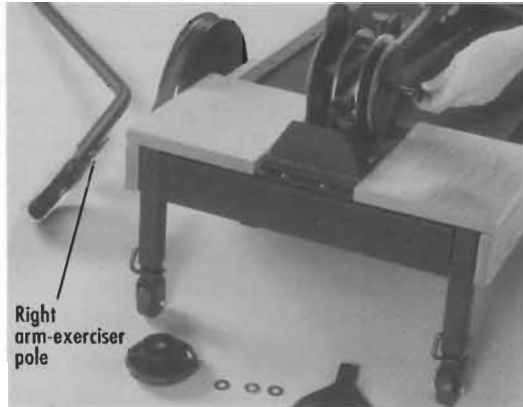

Figure 3
8. Gently pull the left arm-exerciser pole and brake-pad plate off the machine (Figure 3).